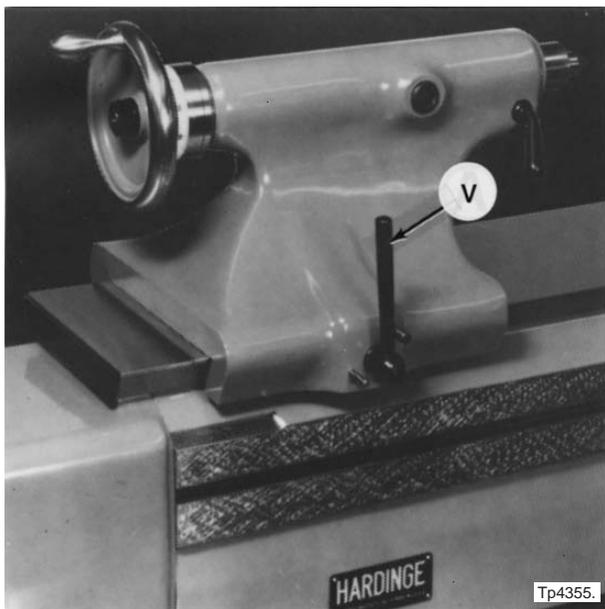

Figure 1.28 - Tailstock Locking Lever
Locking lever "V", Figure 1.28, is shown in the locked position.
2. Release locking lever "V", Figure 1.28, and remove the tailstock assembly from the end of the machine.